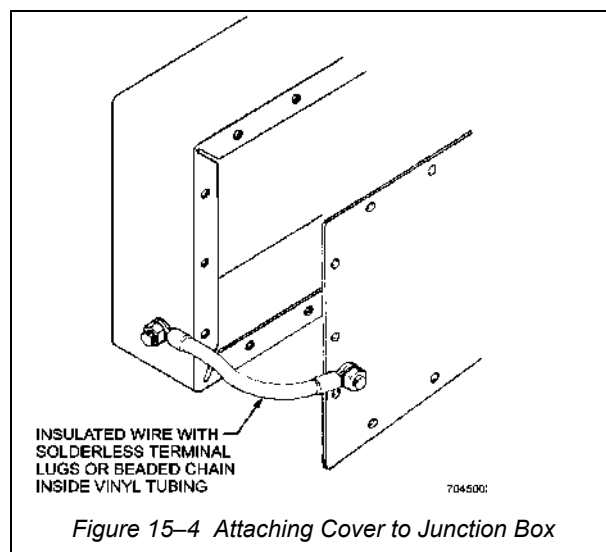

Figure 15-4 Attaching Cover to Junction Box
16. Junction box covers may be hinged or attached by means of screws. Screw threads must not extend into the box in the vicinity of wiring. The sharp threads may cut wire insulation. If covers are not hinged, secure the cover to the box with an insulated bead chain, or No. 14 wire, as shown in Figure 15-4. Make this attachment outside the box so that when the box is closed the chain or wire will not interfere with the wiring.